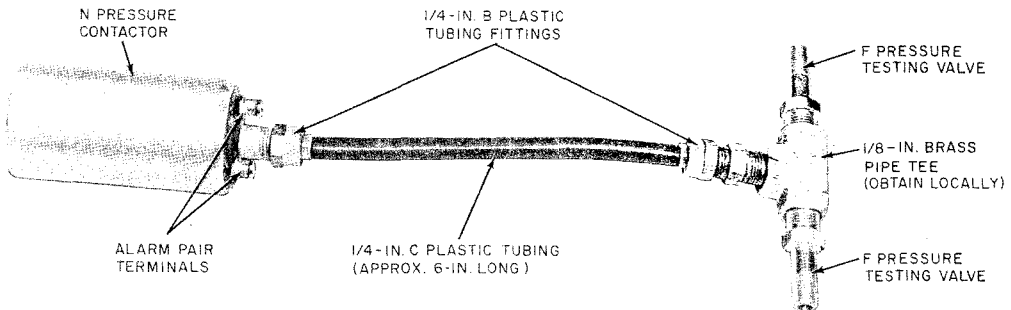

Fig. 3—N Pressure Contactor Prepared for Checking Operate Pressure Point
- (1) Prepare the contactor for checking in accordance with details given in Fig. 3.
- (2) Attach a C pressure gauge to one of the F pressure testing valves.
- (3) Connect a volt-ohm meter, set to read ohms, to the alarm pair terminals.
- (4) While watching the meter, pressurize the contactor through the other F pressure testing valve until the meter indicates infinite resistance (open circuit).
- (5) Slowly bleed the air from the contactor by carefully depressing the F pressure testing valve core until the meter *just* indicates zero resistance (closed circuit).
- (6) The operate pressure point can now be read directly from the C pressure gauge.